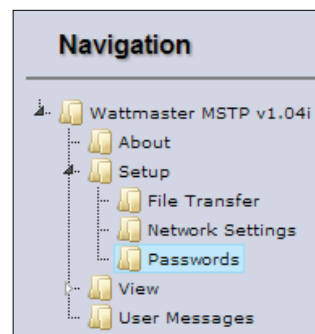

Figure 31: Setup - Passwords
1.) In the *Navigation Window* on the left of the *FS-GUI Screen*, click **<Setup>** and then click **<Passwords>**. See **Figure 31**. The *Passwords Window* will appear.